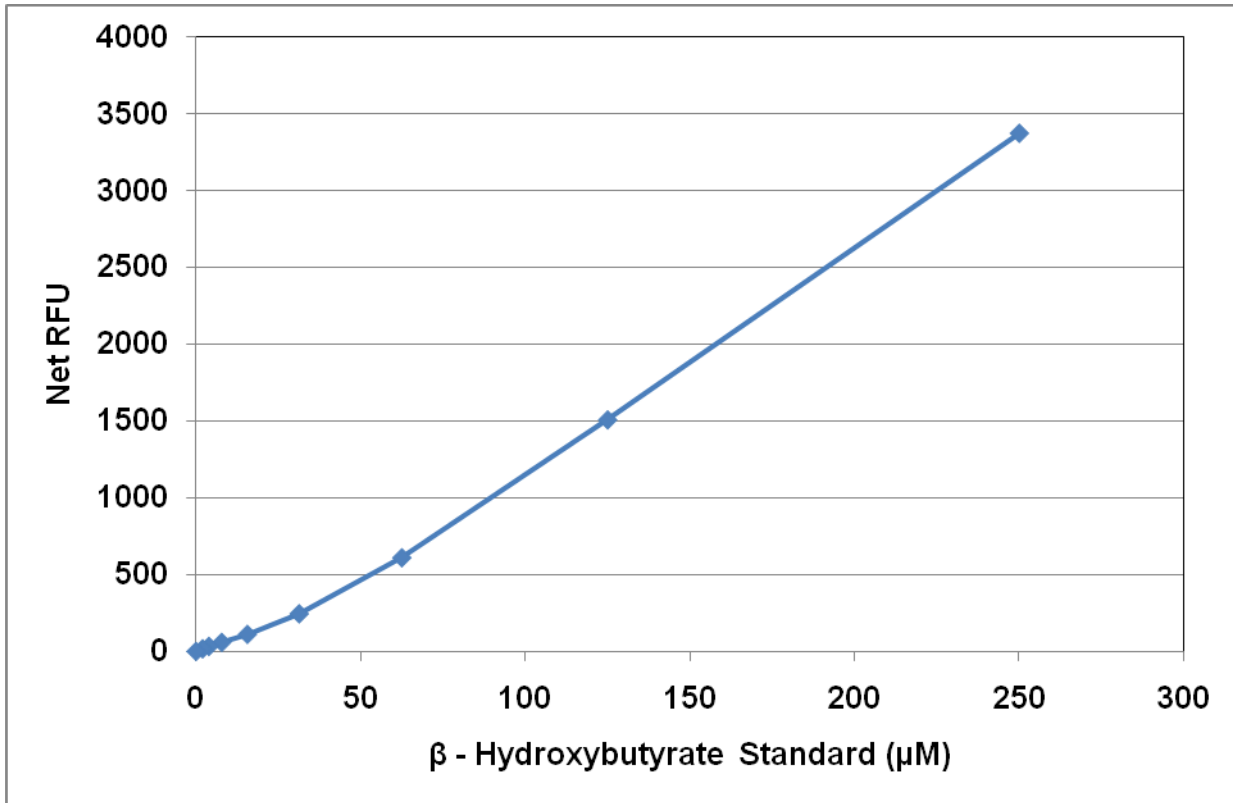

Figure 2: β -Hydroxybutyrate Standard Curve.
2. Plot the corrected fluorescence for the β-Hydroxybutyrate standards against the final concentration of the standards from Table 1 to determine the best slope (μM^{-1}). See Figure 2 for an example standard curve.